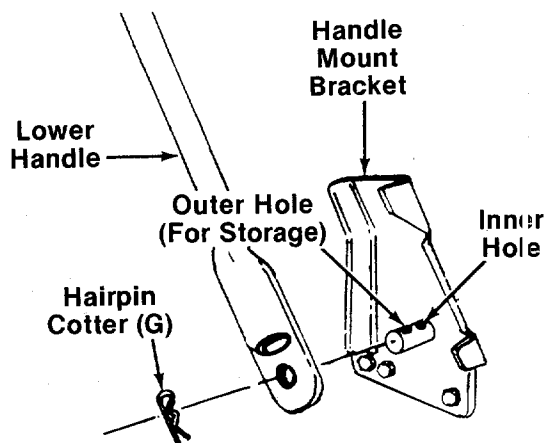

FIGURE 2.
- D (2) Phillips Head Screws
- E (1) Plastic Cap
- F (2) Cable Ties
- G (2) Hairpin Cotter
- H (1) Pin 4 1/4" Long
- I (2) Plastic Plugs
- J (2) Front Hub Caps (Optional—Not Shown)
- K (2) Ignition Keys (Not Shown)
3. Place lower handle in position over weld pins in handle mount brackets on deck. Make certain the instruction label on the lower handle can be read from the operating position. Secure by placing two hairpin cotters (G) in inner hole on weld pins. See figure 2.